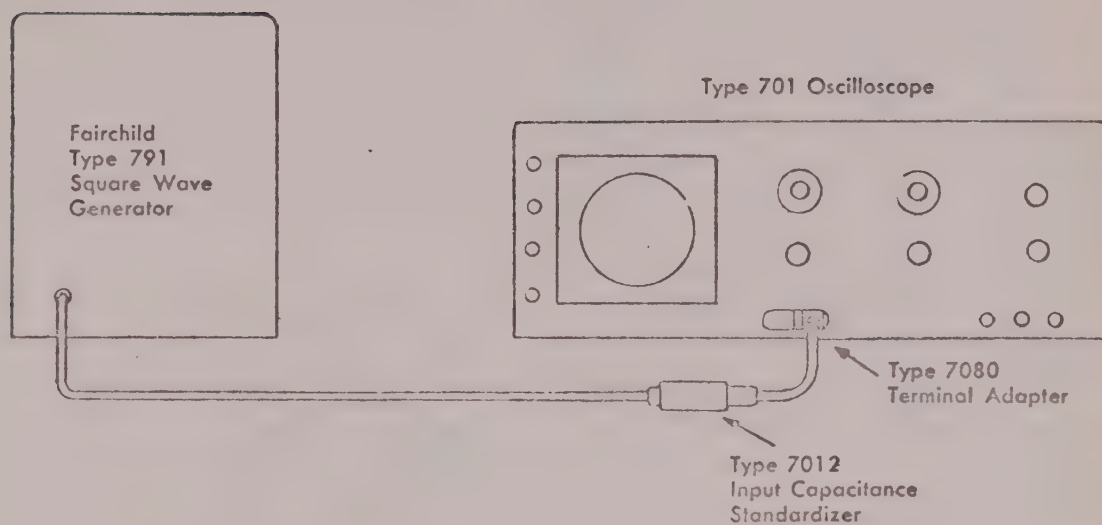

Figure 5-1. Test Setup for Adjusting Input Capacitance
2. Connect the output of a properly terminated square wave generator through the Type 7012 Input Capacitance Standardizer to Y INPUT. See Figure 5-1.